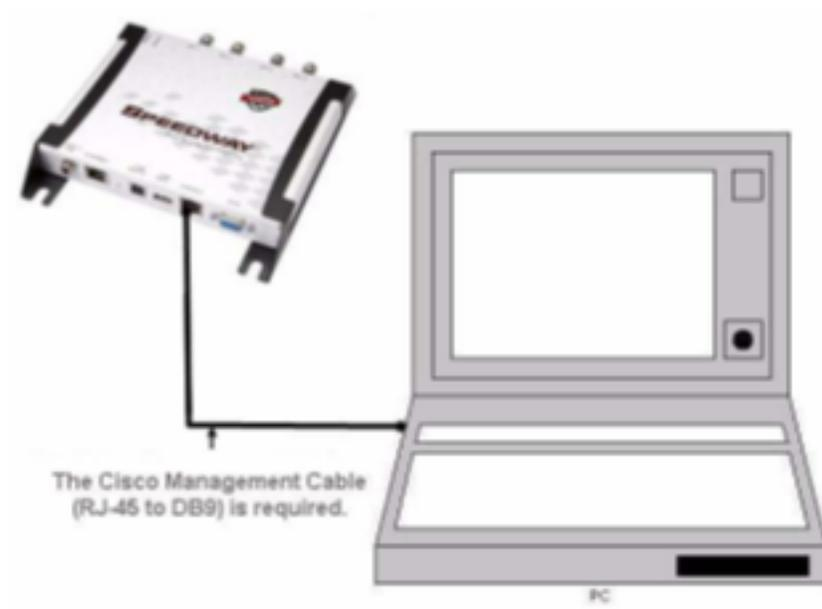

Figure 5.5 Speedway Serial Connection
2. Use a Cisco style Console cable RJ-45 to DB9, Impinj part number IPJA4000000, to connect your PC’s valid/active COM port to the serial port on the reader, as shown in Figure 5.5.